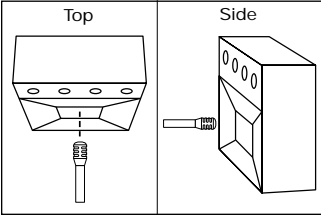

Figure 4
Use an SM57 microphone roughly 1-4 inches from the loudspeaker, pointed toward the center of the speaker cone (see figure 4).
**Electric Guitar Amplifier** – Use an SM57 (or PG57) microphone roughly 1-4 inches from the loudspeaker, pointed toward the center of the speaker cone (see figure 4).